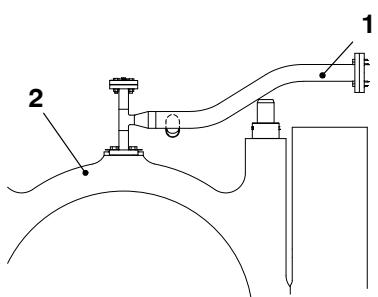

Fig. 2
- 2) Remove the oil pipe (1, Fig.2) to the main bearing cover (2).